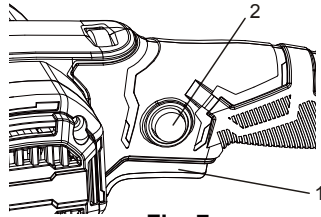

Fig. 7
The lock-on button (2) is used to lock the ON/OFF trigger switch in the ON position (Fig. 7). Locking the trigger switch in the ON position will reduce hand fatigue when operating the tool for extended periods of time.
1. To lock the trigger switch in the ON position, squeeze the trigger (1) to turn the tool ON.
2. While squeezing the trigger, press the lock-on button (2) into the handle.